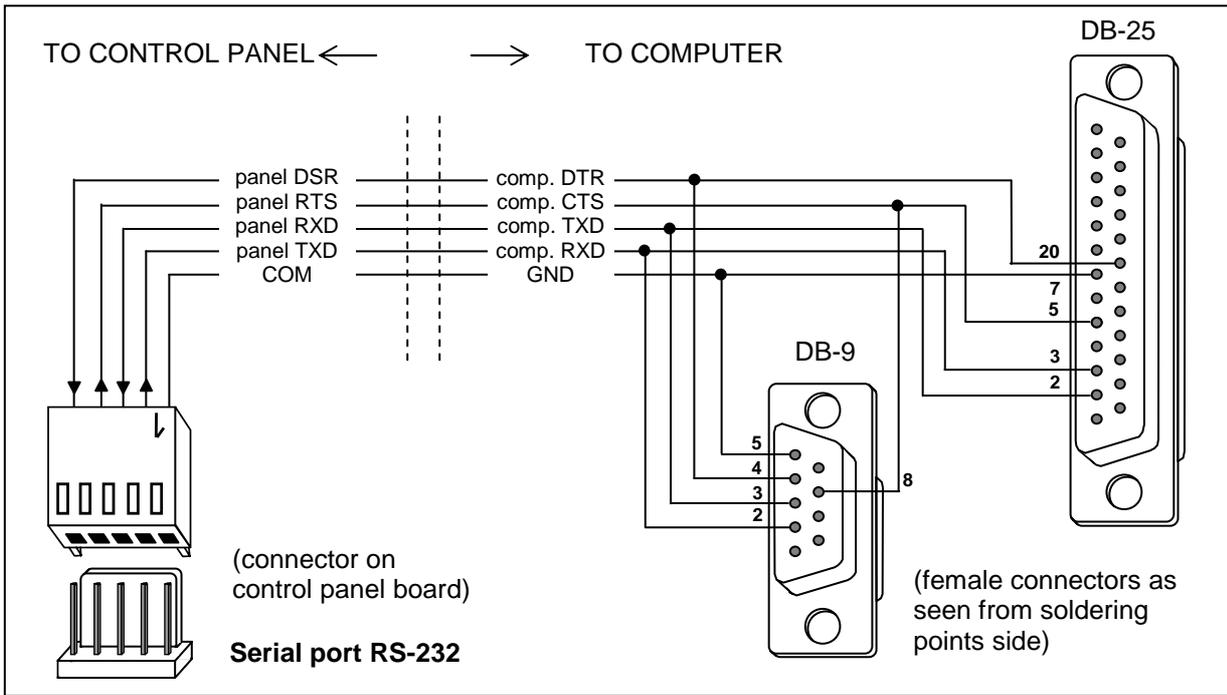

Fig.15. Connection of computer to the control panel serial port.
2. Connect the cable to RS-232 ports in control panel and computer (Fig.15).